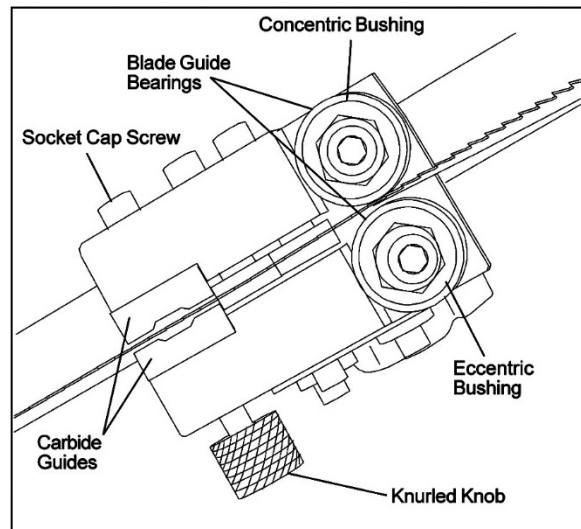

Figure 10
- Loosen the center locking screws in all three hex adjustment screws on blade tensioning mechanism (see Figure 10).
8. Adjust blade-edge bearings so they just touch the back edge of blade (see Figure 10).